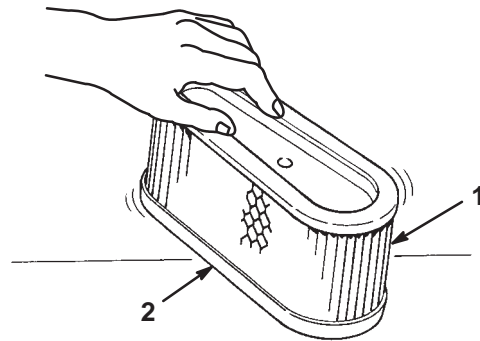

Figure 24
- Lightly tap the element on a flat surface to remove dust and dirt (Fig. 24).